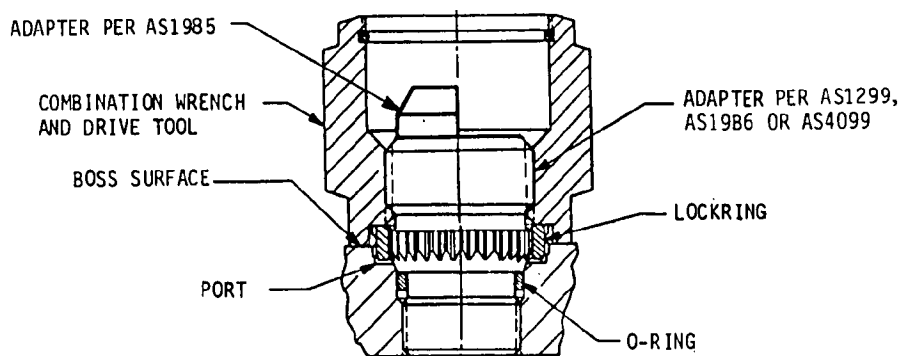

FIGURE 4 - Lockring Installation
- 4.2.5 While the zinc chromate (or other primer) applied per 4.2.4 is still wet, install the lockring by rotating the threaded end of the combination wrench and drive tool clockwise onto the adapter assembly until it touches the lockring. Using an open end or socket wrench on the tool, turn the tool in a clockwise direction until it bottoms on the port surface as shown in Fig. 4. Visually observe that the tool has bottomed.